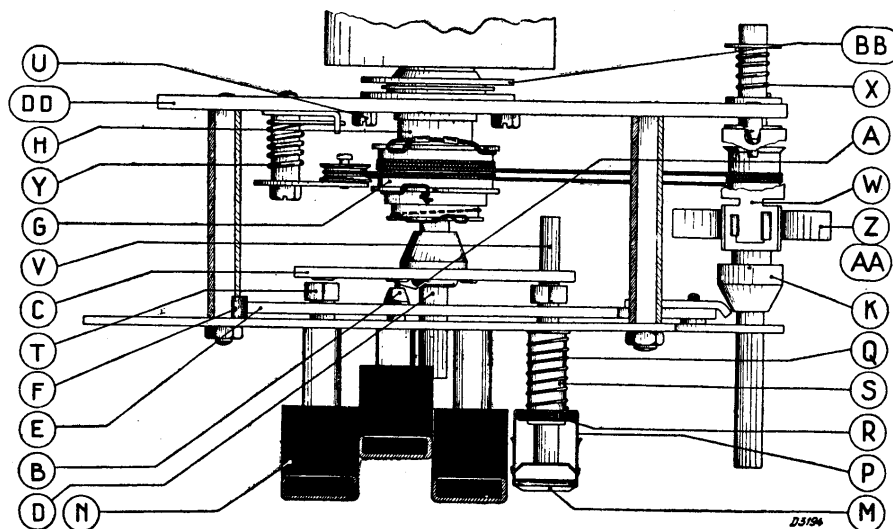

Fig. 8
2. Fork inside the variable condenser not gripping the fork on hollow spindle H (Fig. 8). See remarks on Renewal of Variable Condenser.